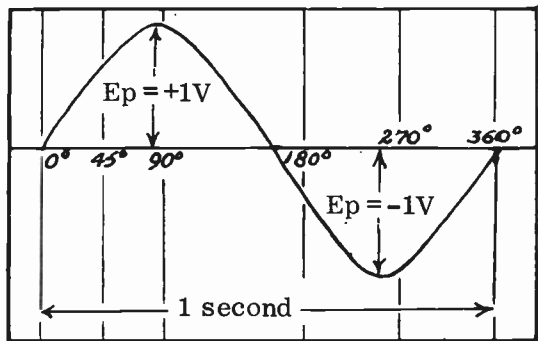

FIG. 4-3. THE SINE WAVE.
(1) The complete wave, as shown in Fig. 4-3, is known as a **CYCLE**. The wave is generated in one complete revolution of the loop, from 0 to 360 degrees.
(2) An alternation is one-half cycle, from 0° to 180°, or from 180° to 360°.
(3) The frequency of a sine wave is the number of complete cycles in one second. If the sine wave of Fig. 4-3 takes one second to get from 0° to 360°, its frequency is one cycle per second. If 60 such cycles are completed in one second, the frequency would be 60 cycles per second. The time taken for one such cycle would be 1/60th of a second.
(4) The height of the wave at any point is known as its **AMPLITUDE**. The highest point of the wave is called the maximum or **PEAK AMPLITUDE**, which in Fig. 4-3, is one volt. In a sine wave, the peaks always occur at 90 degrees and 270 degrees; the zero points always occur at 0, 180 and 360 degrees.
The peak voltage,  $E_p$ , is the voltage from the 0 line to the maximum point on either side of the 0 line. The Peak-to-Peak voltage is from the maximum point on the positive side of the 0 line to the maximum point on the other side of the 0 line. It is 2V. in Fig. 4-3. The sine wave of Fig. 4-3 represents AC current as well as AC voltage. Peak current or peak-to-peak current has similar meanings to their voltage counterparts.